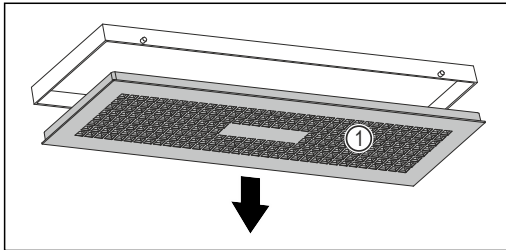

Fig. 101
- ▶ Slowly turn the water box down while holding the cover Fig. 101 (1).
- ▶ Remove the cover Fig. 101 (1).